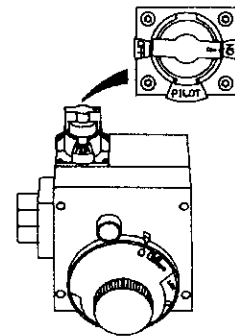

Figure 8
11. At arms length away, turn gas control knob counter-clockwise (  ) to the full "ON" position. **Warning do not use gas control knob to regulate gas flow.** (Figure 8, page 17)